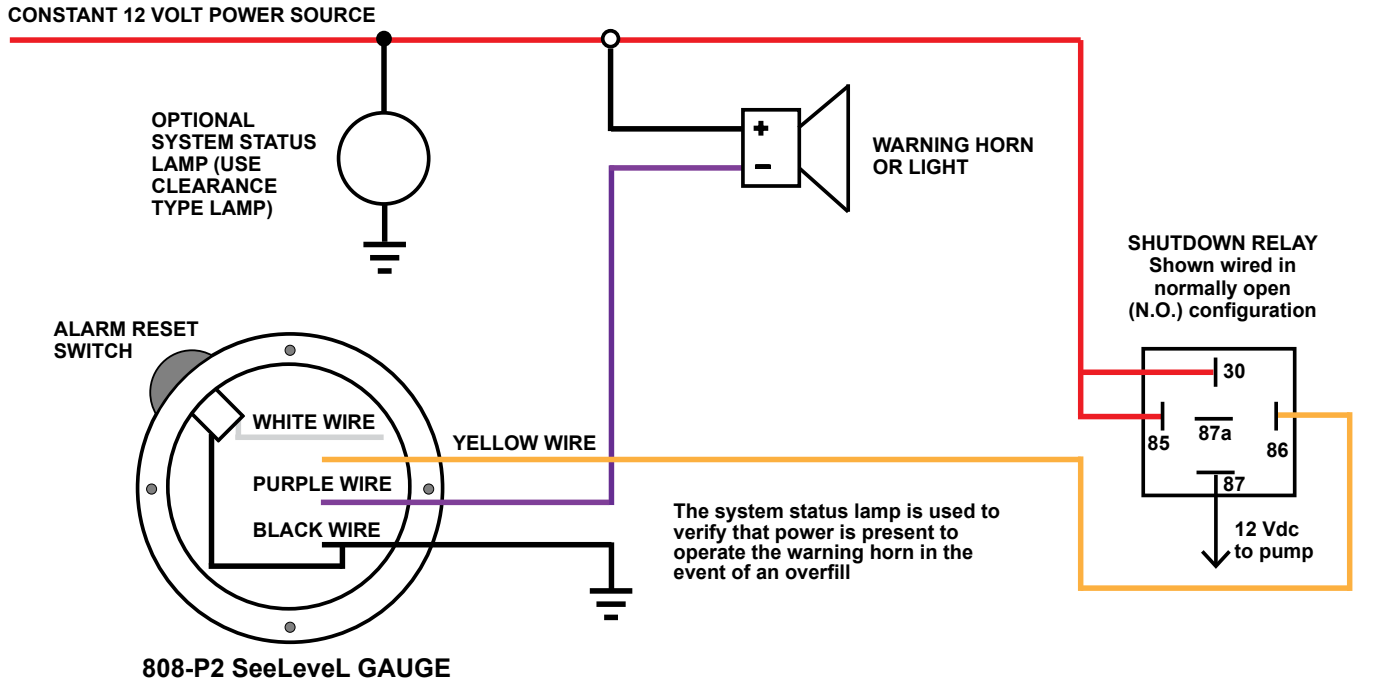

Figure 3.5.6c Fiber from Sender Bar plugged into 817-USB Truck Gauge Programmer
3. Correct operation is confirmed when there is engagement every 1/3 of an inch for 810-X, or 1/4 of an inch for 810-TX, on the 817-USB Truck Gauge Programmer. (See Figure 3.5.6c)